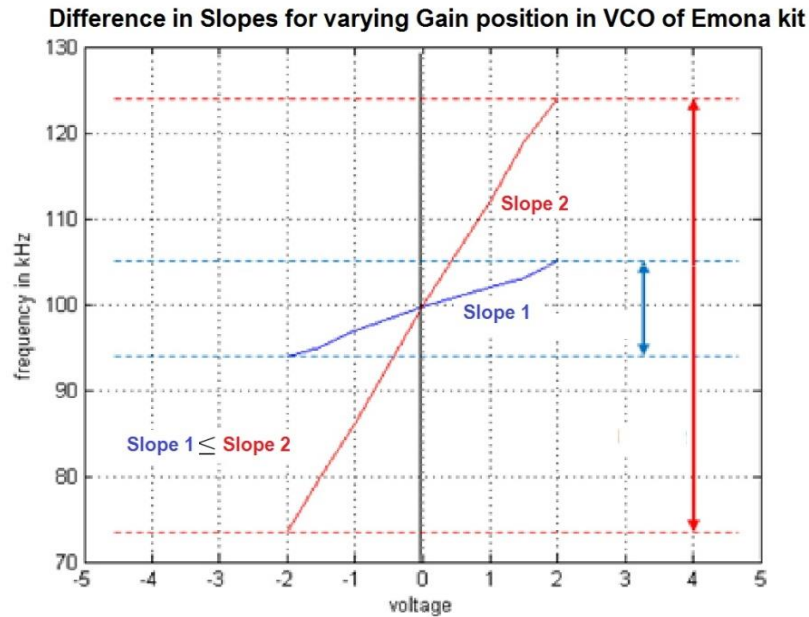

Figure 7- VCO Characterization for Different VCO gain positions
- Plot a graph between VCO's input Voltage and Frequency of the VCO output. You may use the graph sheet, provided to you, for plotting the graph. (Refer to Figure 7 for Sample plot). Calculate the slope of this plot as **Slope1**. You will realize the need for this plot after going through few more steps.
- i) On the plot, as in Figure 7, draw lines parallel to the X-axis, corresponding to f_L and f_H and note the Voltage values corresponding to the points where the horizontal lines intersect the VCO characterization curve, and tabulate in Table 1.
- l) Again, on the plot, as in Figure 7, draw lines parallel to the X-axis, corresponding to these new f_L and f_H , corresponding to the new VCO gain position (\leftarrow) and note the Voltage values corresponding to the points where the horizontal lines intersect the VCO characterization curve, and tabulate in Table 1.